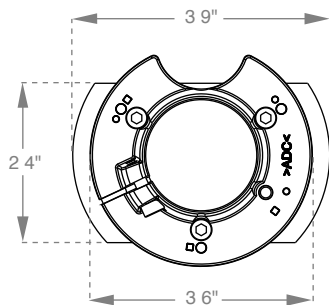

Figure 4.8 Grommet Mount Mounting Holes
- The Grommet Mount secures to the grommet hole using three bolts, which insert into three of four mounting holes. The hole orientation is designed to accommodate different grommet hole sizes/shapes. The symbols on the top of the mount denote the correct bolt hole (see Figure 4.8):